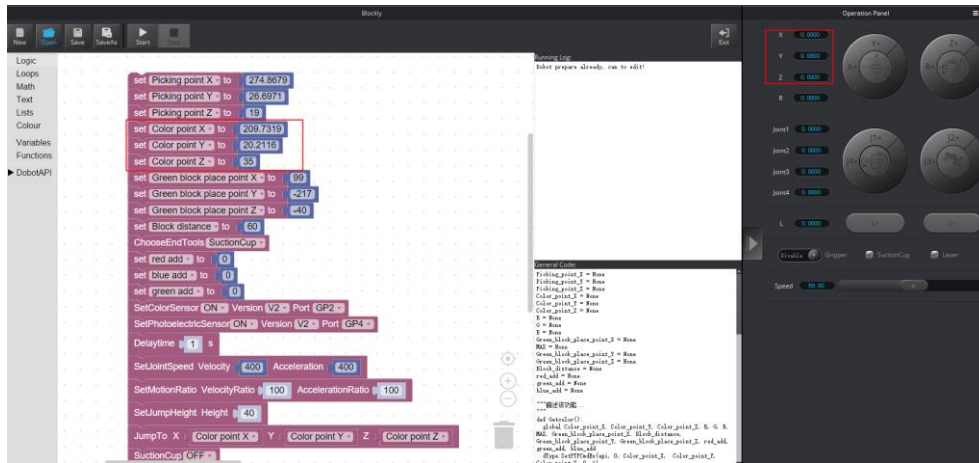

Figure 4.9 Modify color- identified position
2. The operation panel on the DobotStudio will record the values of X, Y, Z axes automatically, and write the values of the X, Y, Z axes in the sorting demo as shown in Figure 4.9.